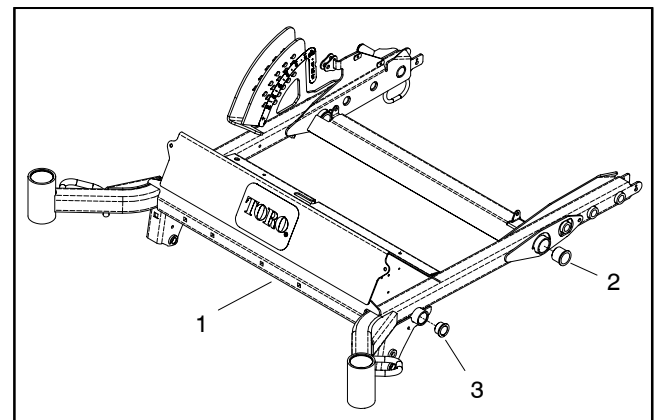

Figure 24
1. Check flange bushing(s) in carrier frame for wear or damage (Fig. 24). Replace flange bushing(s) if necessary.